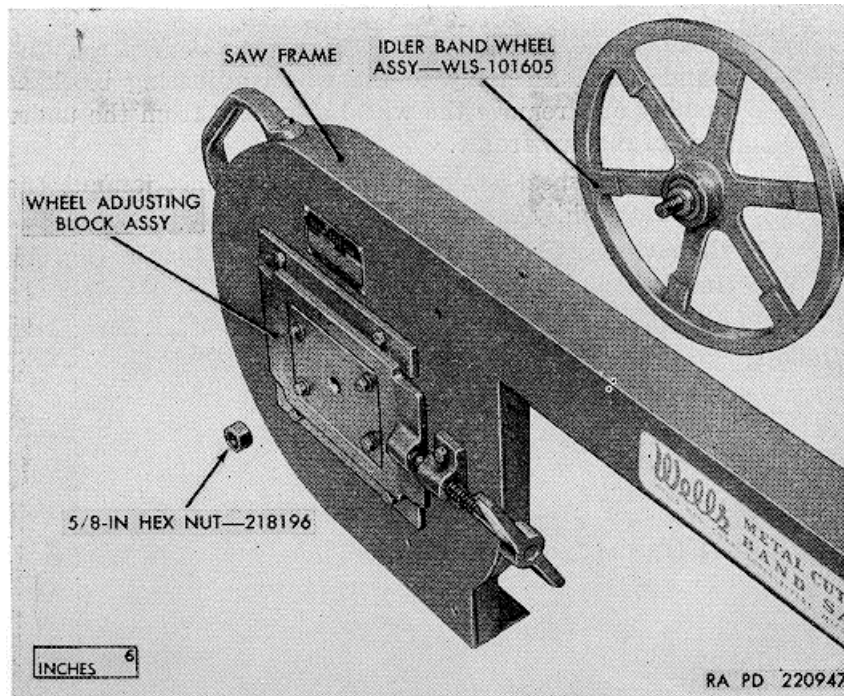

Figure 34. Idler band wheel assembly removed from saw frame.
- (1) Remove the hex nut (fig. 34) which secures the idler band wheel assembly to the wheel adjusting block assembly and remove the wheel assembly from the underside of the saw frame.
- (6) Assemble the idler band wheel assembly (fig. 34) to the saw frame by inserting the axle of the wheel assembly, from the underside of the saw frame, through the hole in the wheel adjusting block assembly and installing the 5/8-inch hex nut on the axle.